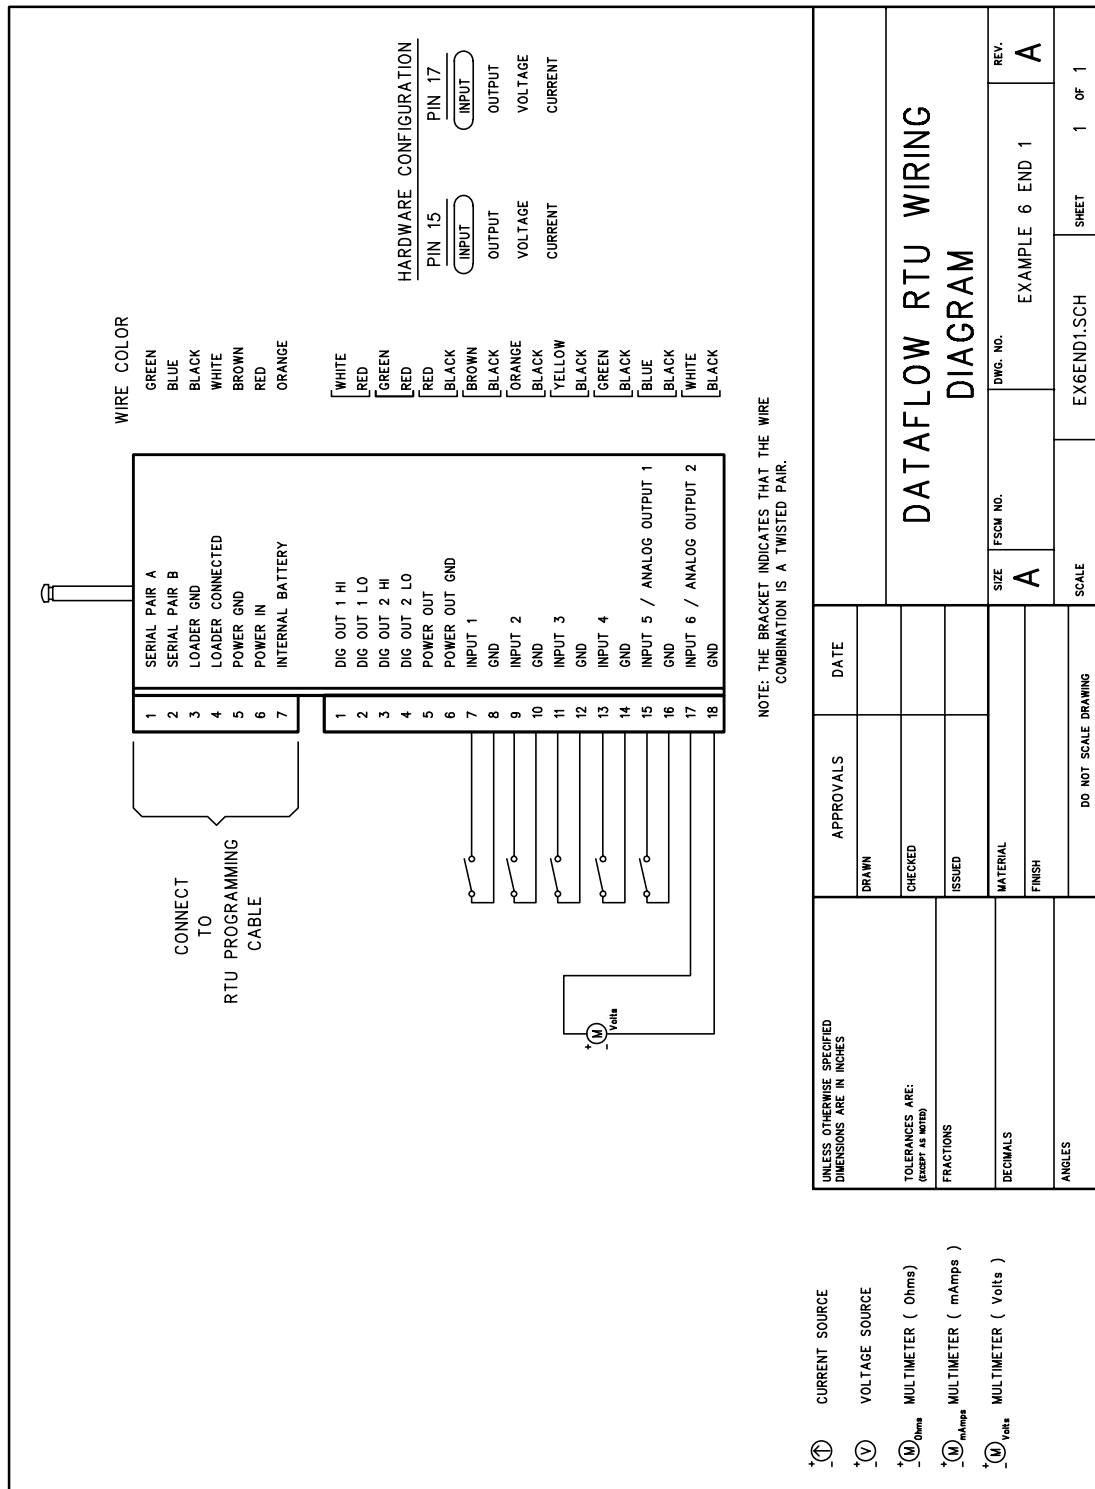

Figure B11 - EXAMPLE 6 RTU ID 1 Wiring Diagram
- 8.6.3 RTU ID 3 SETUP: Example 5 requires one **DATAFLOW RTU** to be wired and its hardware configured according to Figure B11 - EXAMPLE 5 ID 3 Wiring Diagram on page B-35. Load Software Programming configuration file **EXP5ID3.USR** into RTU ID 3.